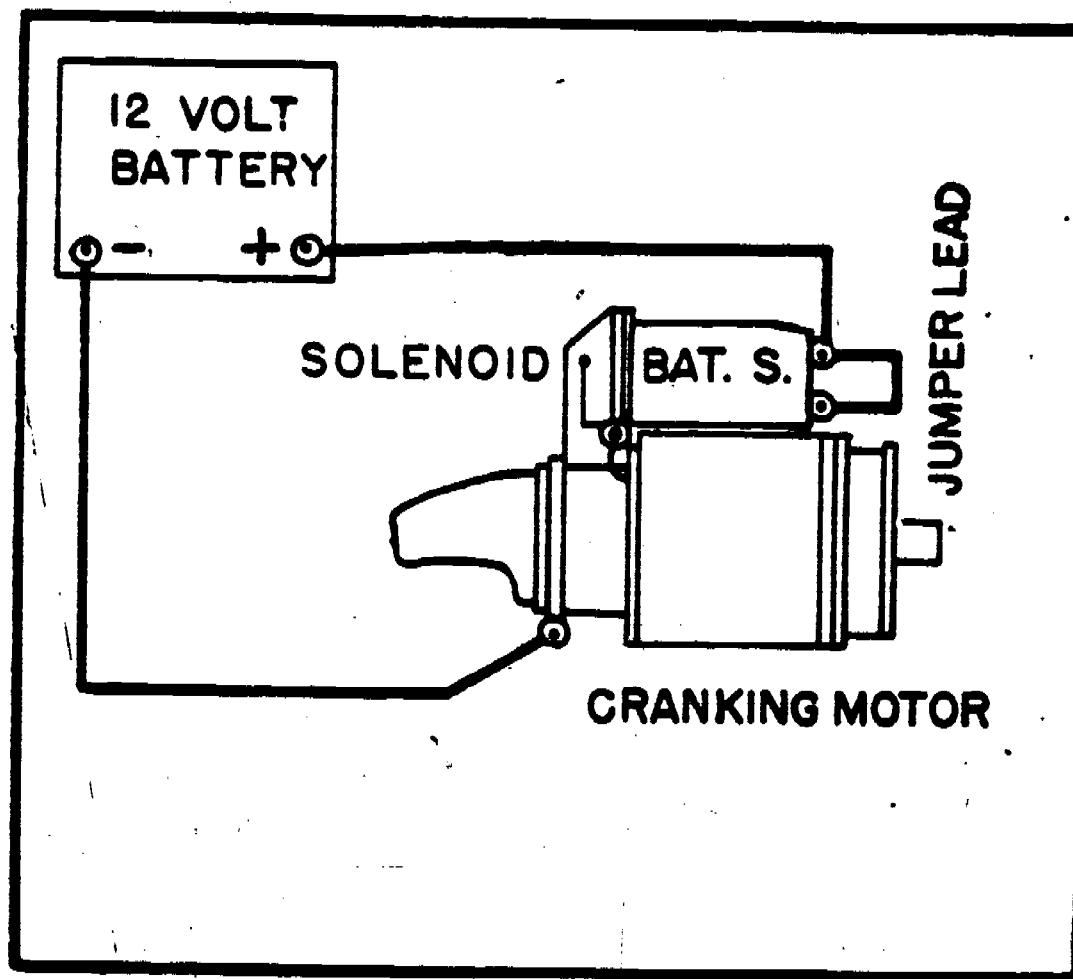

Figure 18. Circuit for Checking Free Speed of Cranking Motor.
2. After reassembly, connect a battery to the cranking motor terminal and ground, figure 18. Energize the solenoid (if any) by connecting a jumper lead between the battery terminal and the "S" terminal on the solenoid. The cranking motor should rotate freely.